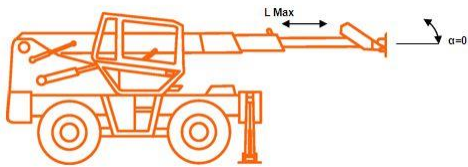
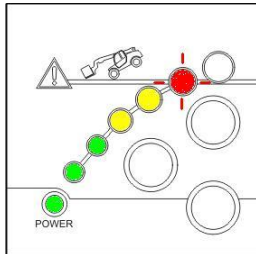

Figure 3.2.37
Figure 3.2.38
8) Step 8: Make the Telescopic handler reach the state as shown in Figure 3.2.37, that is, the Boom is fully extended at a horizontal angle and the support is Outrigger. Press once to OK button. The Indicator changes to the state as shown in Figure 3.2.38.